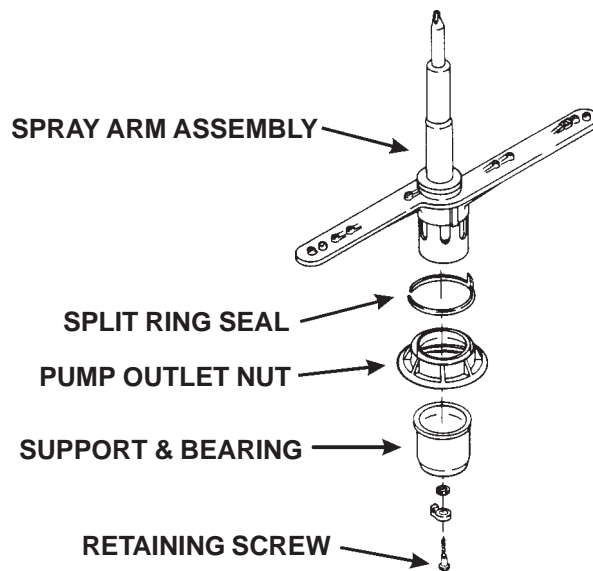

Fig. 1-5
5. The spray arm can be disassembled by removing the retaining screw from the spray arm and removing the split-ring seal, the pump outlet nut and the support and bearing assembly. (Fig. 1-5)